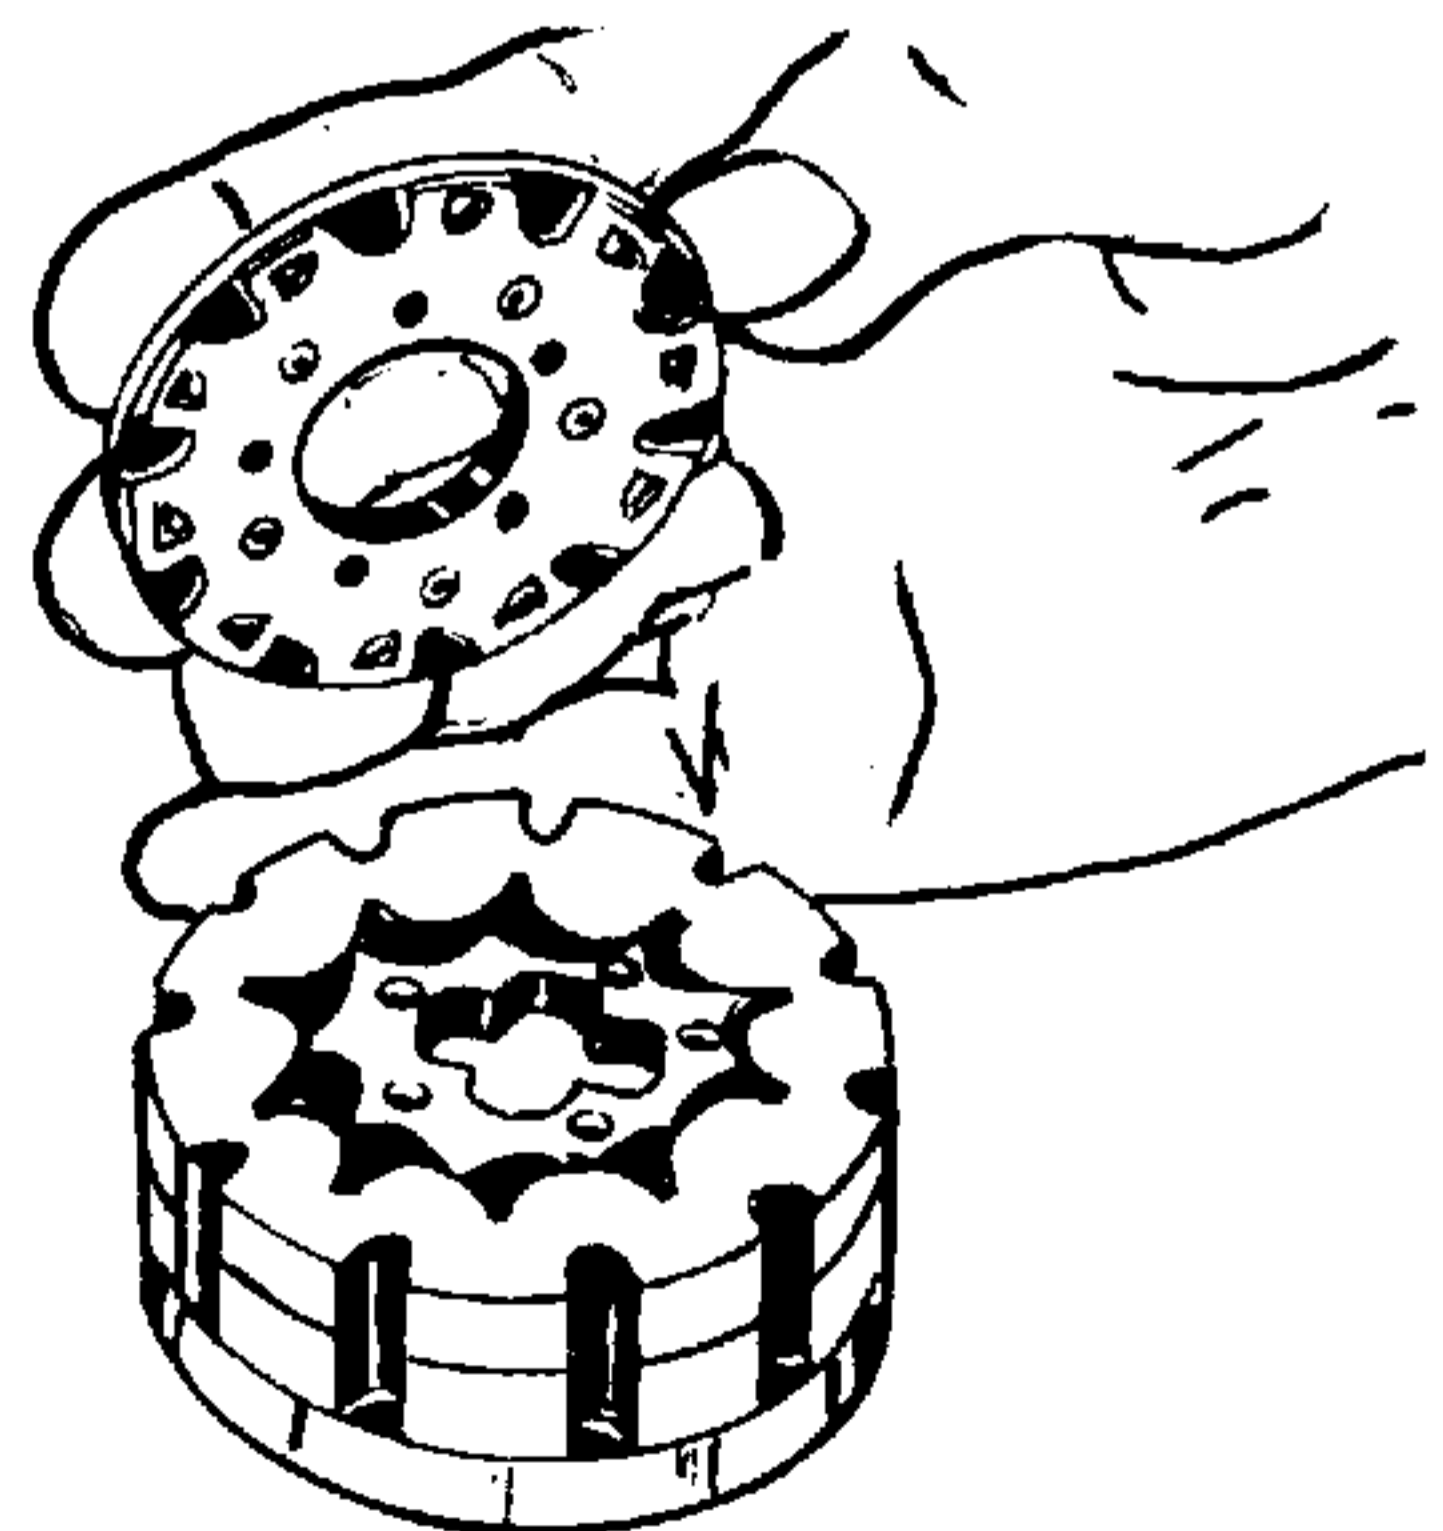
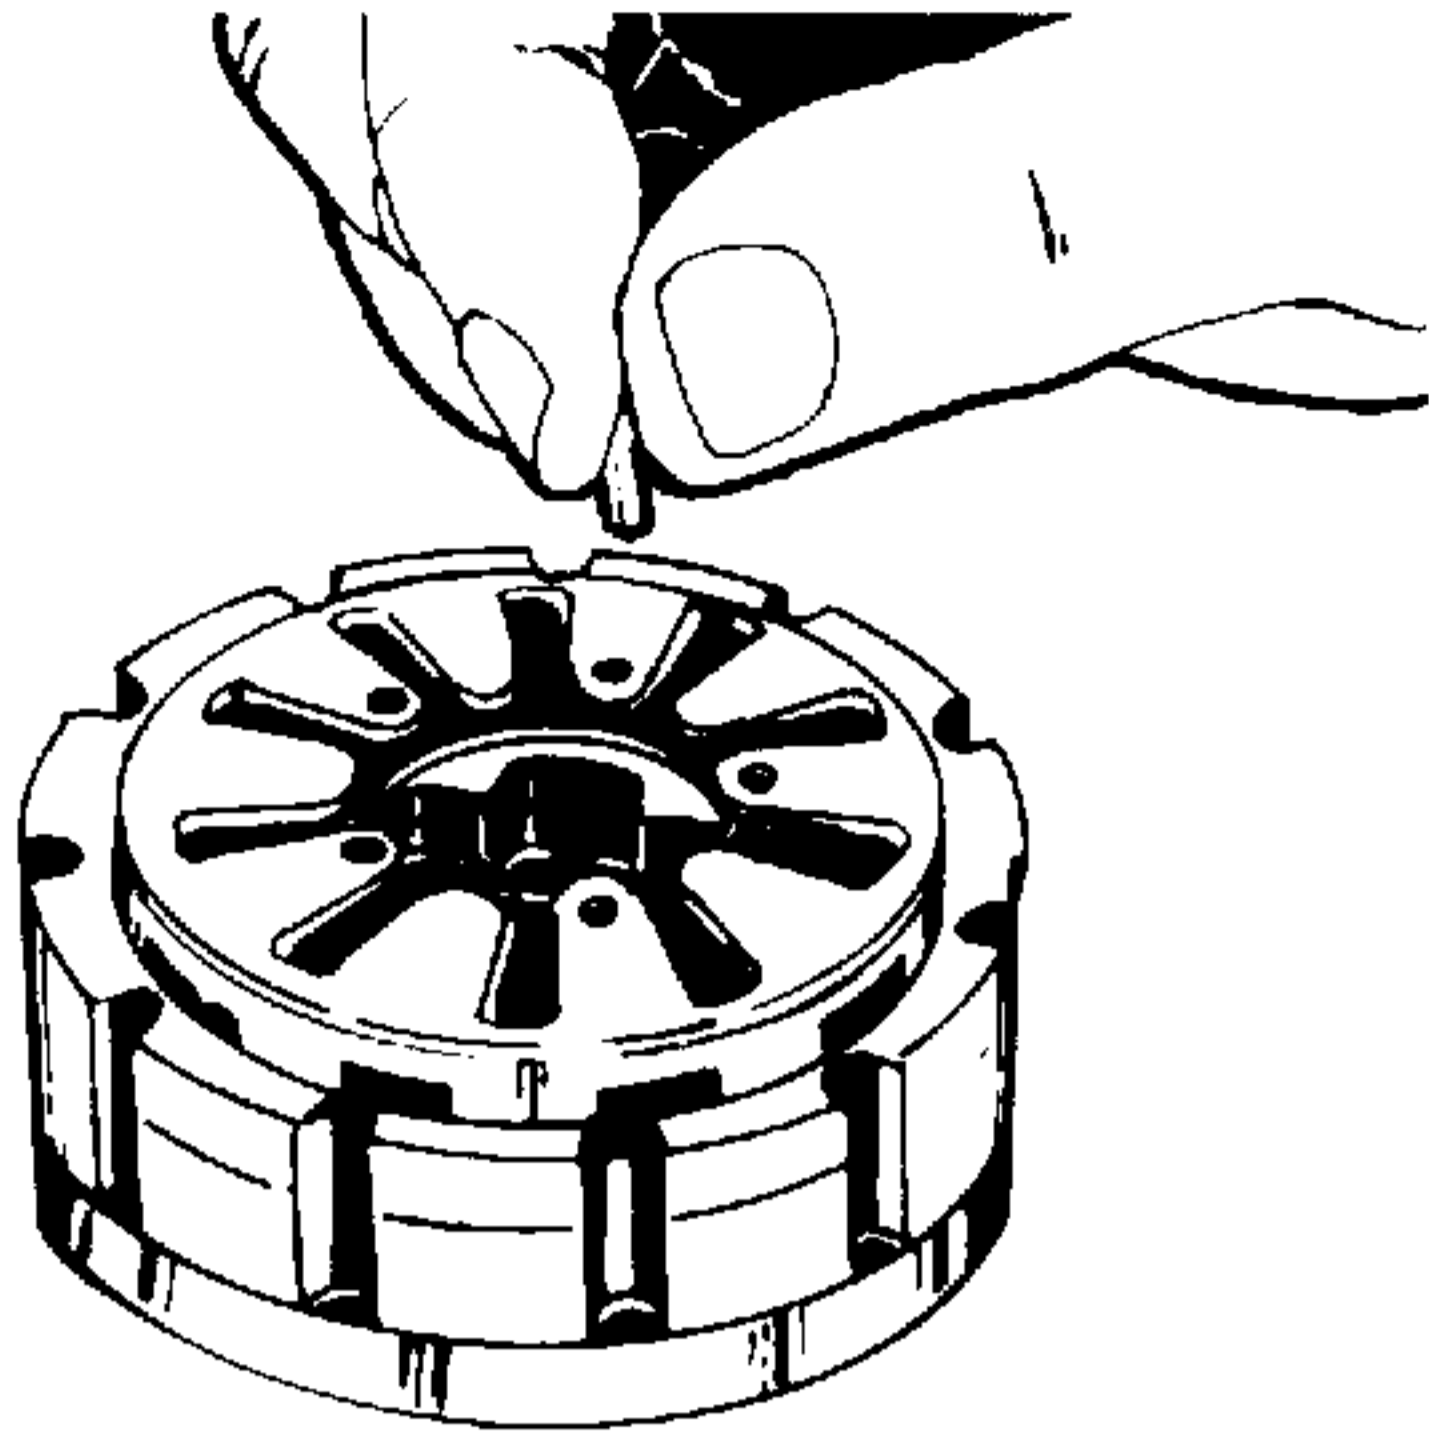

Figure 4-57. Installing Commutator.
Figure 4-58. Installing Needle Rollers.
12. Place commutator (19, Figure 4-1) on top of the rotor (22). Be sure the correct surface, shown in Figure 4-57, is toward the rotor. Align the five holes and press the five needle rollers (11) in place. See Figure 4-58.